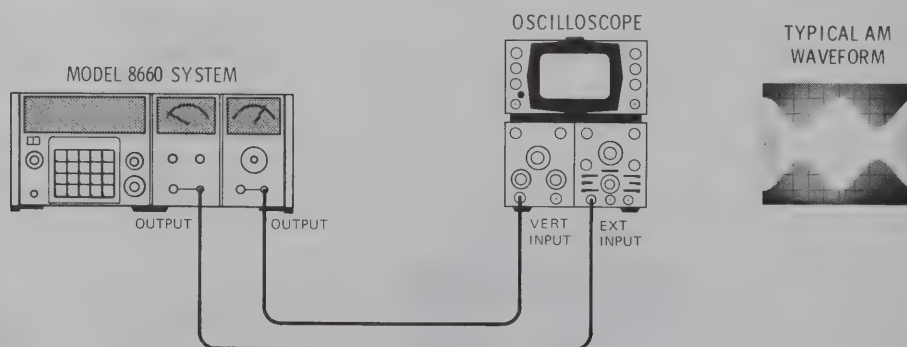

Figure 4-2. Amplitude Modulation Depth and Meter Accuracy Test Setup
1. Connect the equipment as shown in Figure 4-2.
Set the Modulation Section MODE control to AM and the SOURCE control to INTERNAL 1000. Adjust the MODULATION LEVEL control to 2 divisions between peak and valley of the AM envelope display on the oscilloscope. See Figure 4-2 for a typical waveform.
7. Adjust the MODULATION LEVEL control until the AM envelope displayed on the oscilloscope shows 2 divisions between peak and valley. See Figure 4-2 and verify that the meter reading is between 45 and 55%.